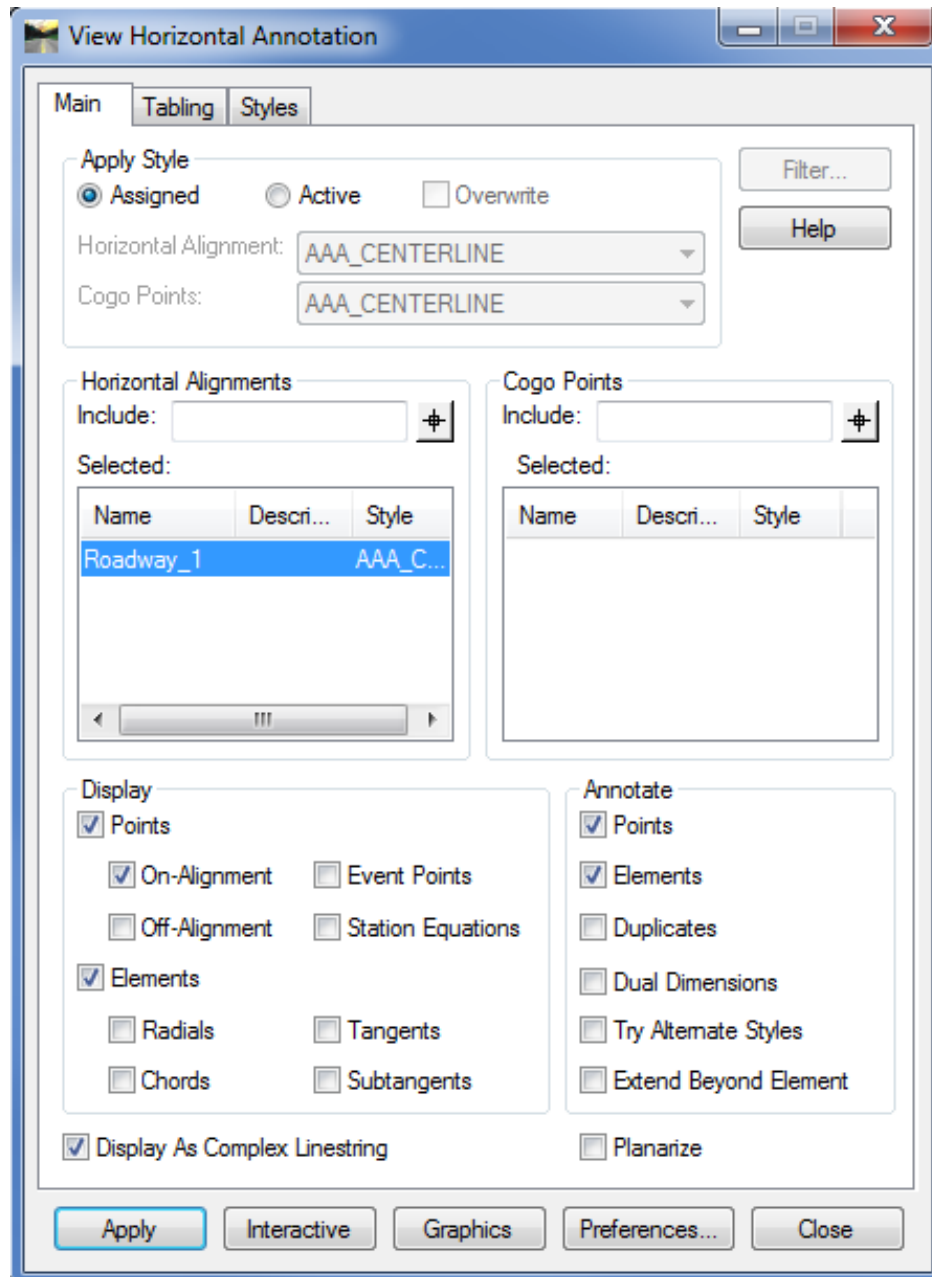

Figure 4-8 InRoads View Horizontal Annotation Dialog Box
- B. Click on the pick button for horizontal alignments and data point on the alignment to annotate, data point again to accept the selection of the horizontal alignment (right click to reject). The alignment name should populate in the **Selected:** field see Figure 4-8.